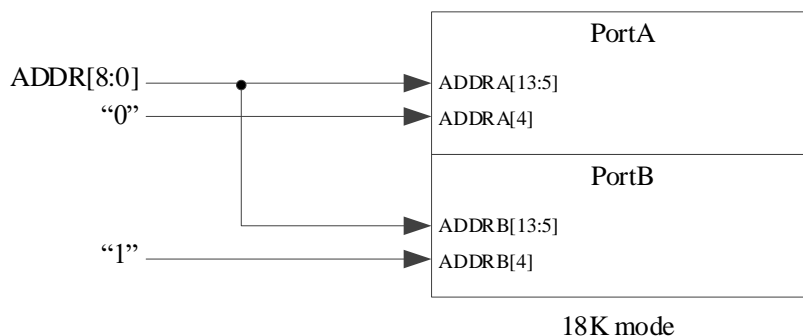

Figure 5-2 Address Line Configuration for TW and RBW Modes in 32/36 Bits 18K SP Mode
- Connect both Port A and Port B address input ports to the address inputs; connect ADDR_A[4] and ADDR_B[4] to 0 or 1 (opposite), as shown in Figure 5-2: